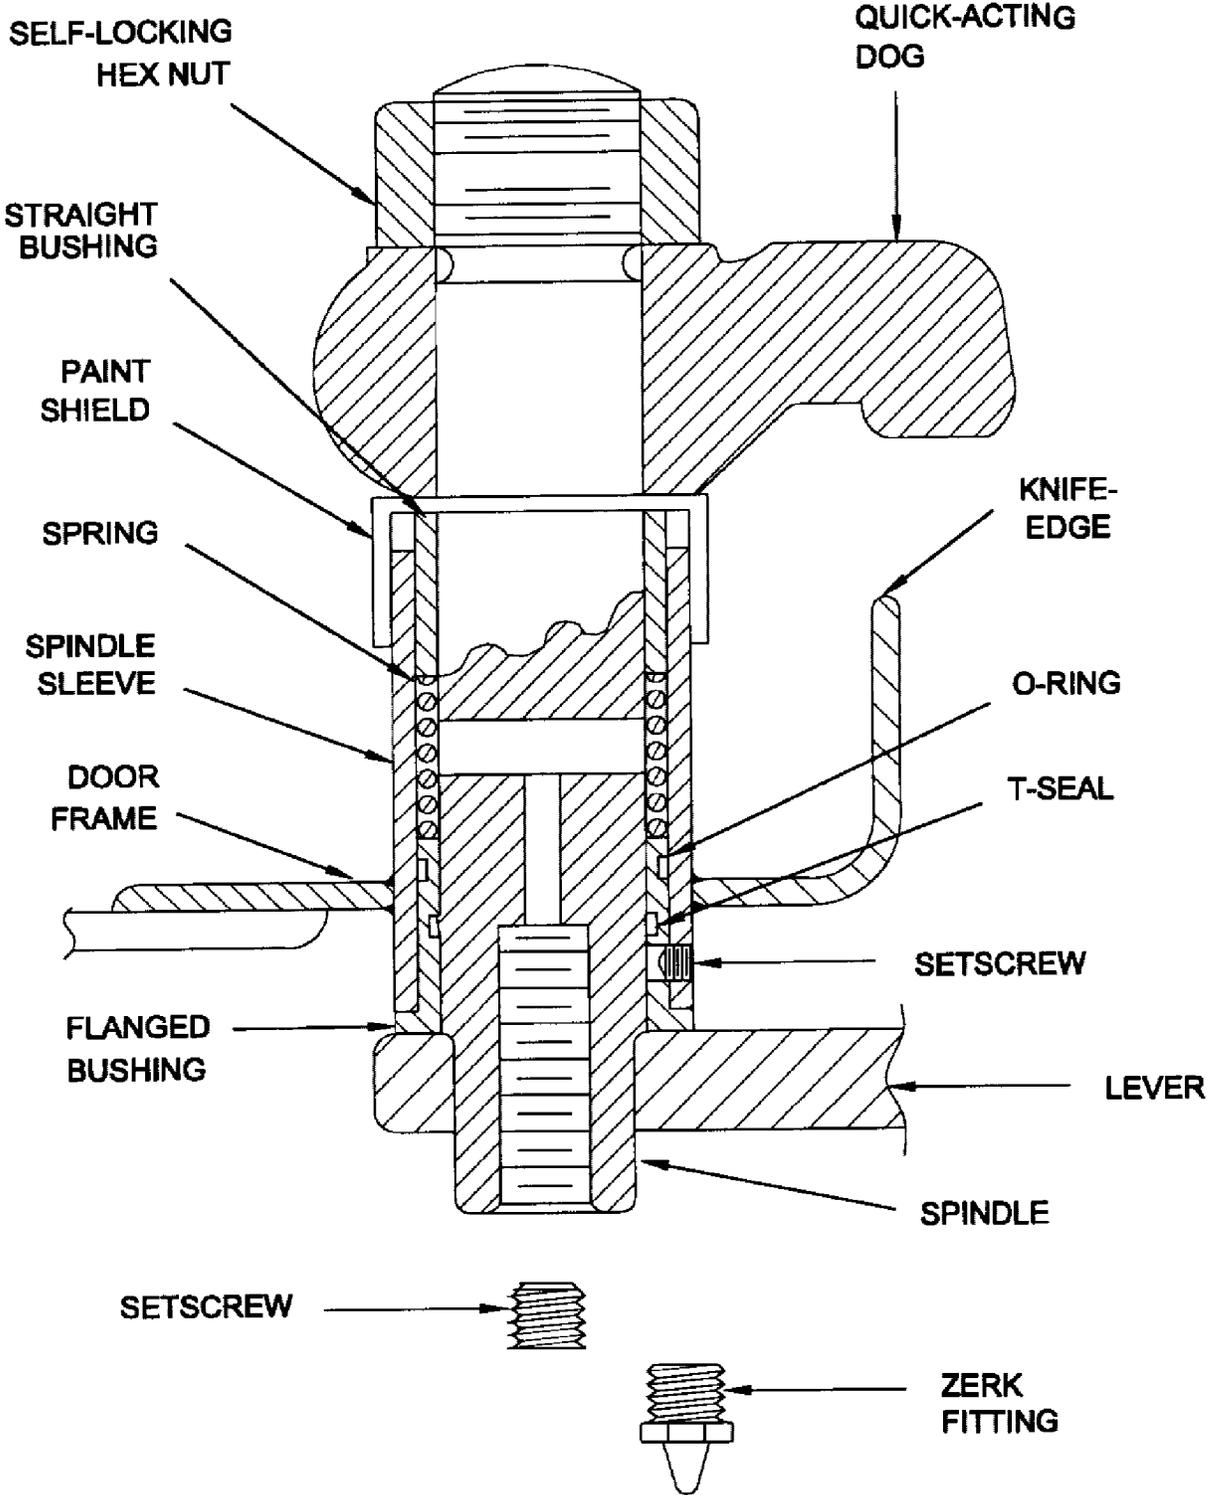

Figure 1-23. Quick-Acting Door Dog Assembly (Cross Section View) Modified by MACHALT 167-31010 (ECP-526)
- f. MACHALT 167-31010 (ECP-526) is installed on exterior doors, well deck doors, and doors in high moisture/humidity areas. This MACHALT removes the Oilite bronze flanged and straight bushings, jamnuts, packing plungers, string, string packing, and helical springs, and installs sintered bronze flanged and straight bushings, O-rings, T-seals, helical springs, self-locking hex nuts, setscrews, and CRES paint shields. The sintered bronze bushings are impregnated with Elisha Technologies EDC 1270 EPL, and the void space within the sleeve is filled with EDC 1270 EPL grease. MACHALT (ECP-526) also replaces the self-lubricated bushings previously installed by MACHALT 167-31004 (ECP-444) on quick-acting weather doors. MACHALT (ECP-526) is not applicable to the newer style doors equipped with grade 316 CRES spindle sleeves. (See figure 1-23.)